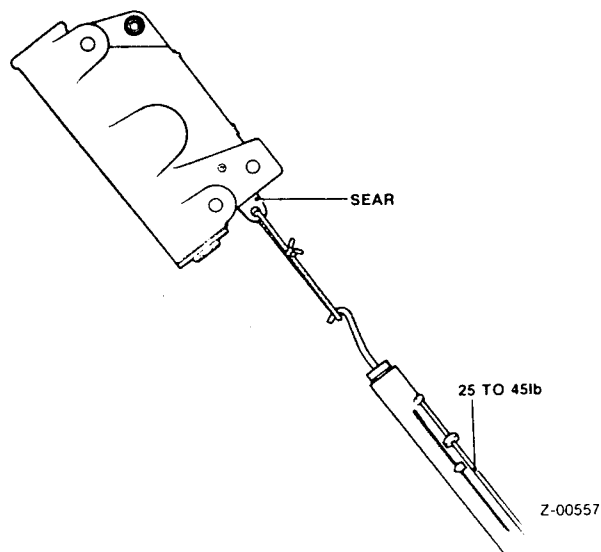

Fig 6 Checking sear pull-out load
9.25 With the mechanism cocked, attach a spring scale to the sear using a suitable length of cord. Check load required to extract sear by pulling spring scale in the normal direction of pull of trip rod. Load is to be between 25 to 45 lbf (fig 6). Check that the mechanism functions smoothly.